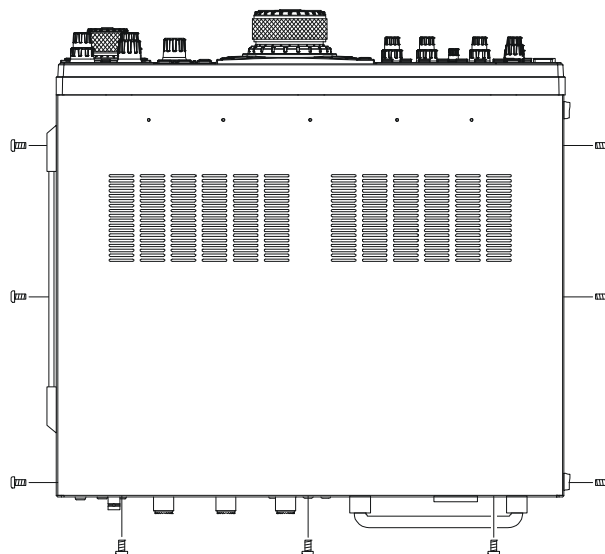

FIGURE 1
2. Referring to Figure 1, remove the three screws from each side of the transceiver, and three screws from the top edge of the rear panel. Slide the top cover toward the rear about 1/2 inch (1 cm), then remove the top cover.